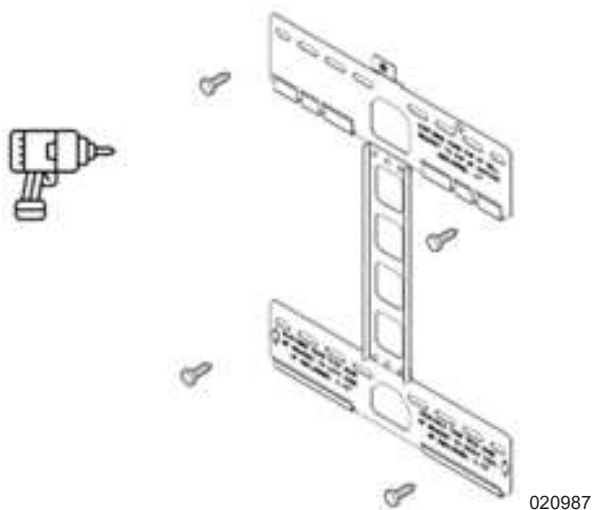

Figure 4-6. Fastening the Mounting Bracket
4. See Figure 4-6. Fasten the bracket to a sturdy wall with suitable fasteners. See General Fastener and Fastening Requirements for more information. See Seismic Anchorage for instructions on mounting to specific structural members in seismic areas.